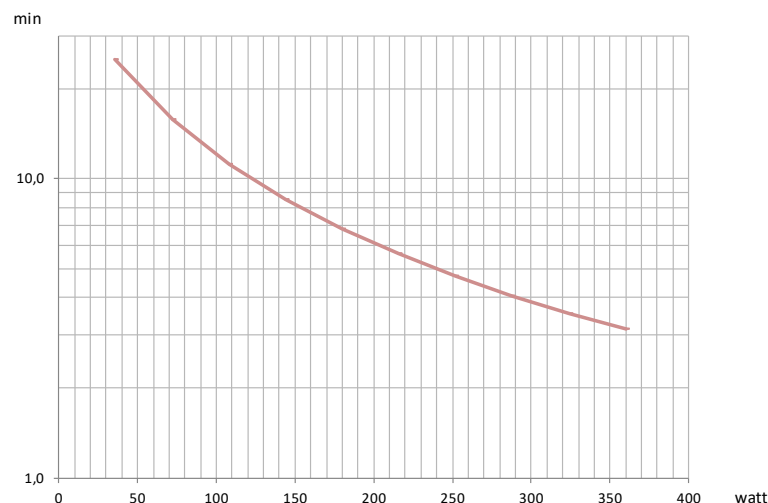

Figure 4. Runtime Graph INFOPDU600 / INFOPDU600PL / INFOPDU600LCD
4. Check whether the discharge time corresponds to the values given in figures 4 to 5. If the discharge time decreases by more than 50%, replace the batteries. UPS works with V.R.L.A. type lead-acid batteries, which are charged in the presence of a mains supply.